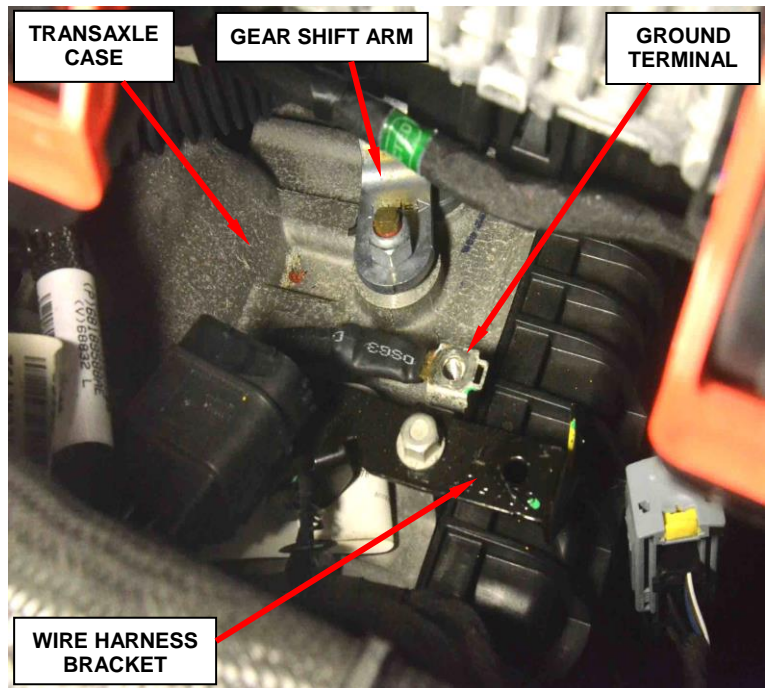

Figure 21 – Ground Terminal
12. Disconnect the wire harness ground terminal from the transaxle case (Figure 21).
14. Remove and save the wiring harness bracket (Figure 21).